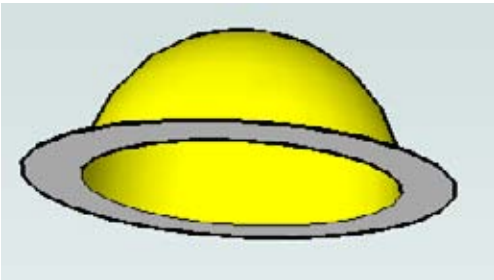

Figure 2-79
4. Look at the bottom. As you can see in Figure 2-79, the dome is hollow.